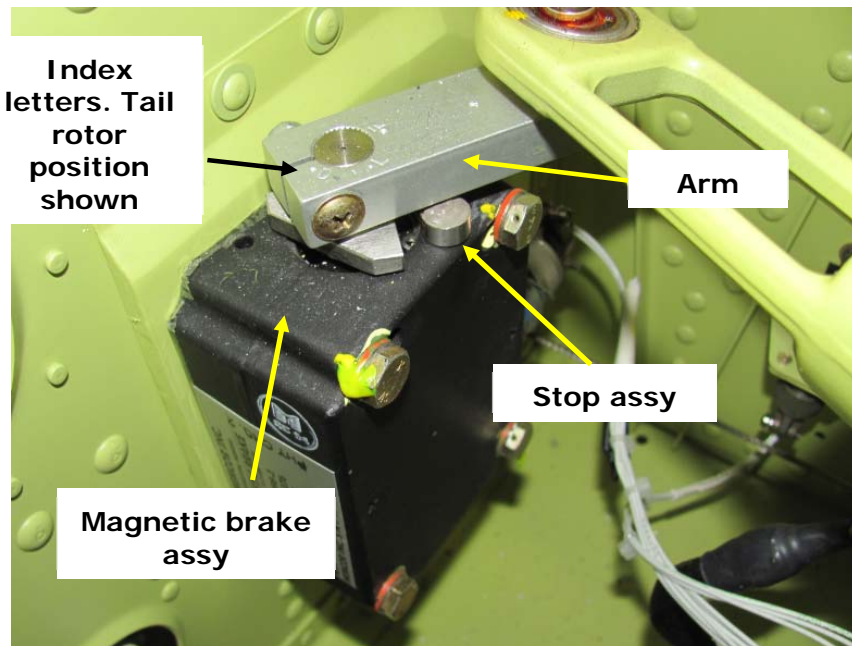

Figure 1. Magnetic brake assembly.
3. Perform a detailed visual inspection of the stop assemblies (Figures 1 and 2). Figures 3 and 4 show a stop assembly found disbonded.